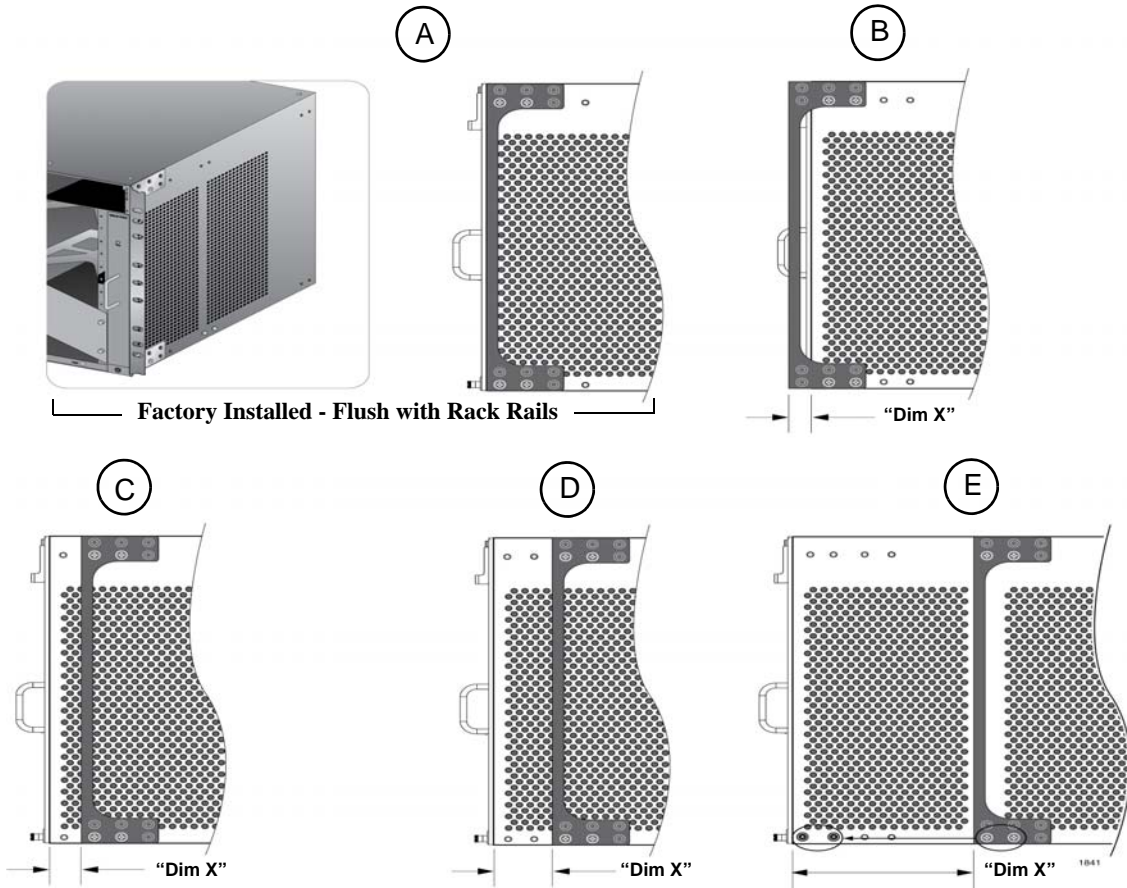
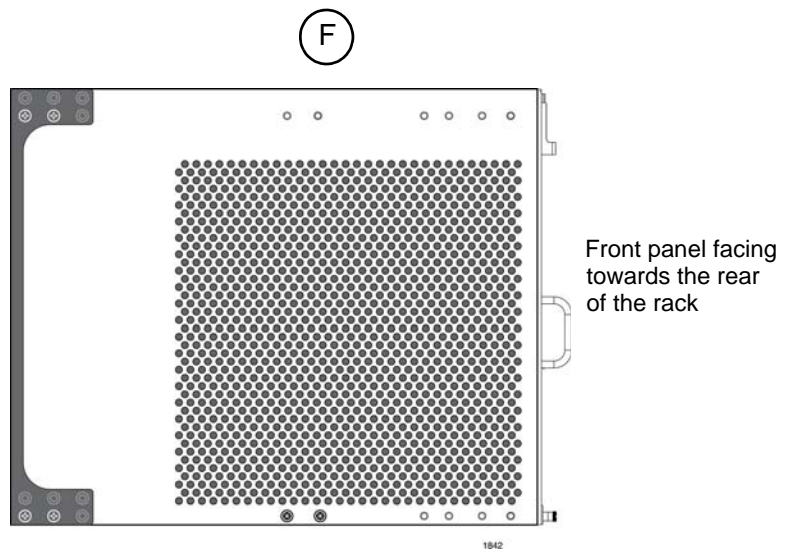

Figure 42. Rack Mounting Bracket Locations
Figure 43. Rack Bracket Locations for Reverse Position of Chassis
The different bracket positions are listed in Table 29 and illustrated in Figure 42 on page 107 and Figure 43 on page 107. Please review the following information before moving the brackets:
- ❑ To install the rack mount brackets in position “E,” you have to remove the two chassis screws from the bottom-middle section of the chassis and re-install them in front where the rack mount bracket screws were originally, as shown in Figure 42 on page 107.
- ❑ The dimension (X) between the front panel and the rack rails is given for each rack mounting bracket position in Table 29.